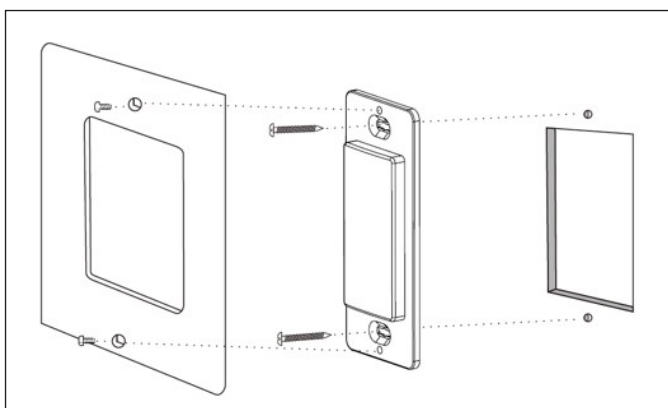

Figure 4: Mounting Control
10. Mount control to the wall. See Figure 4.